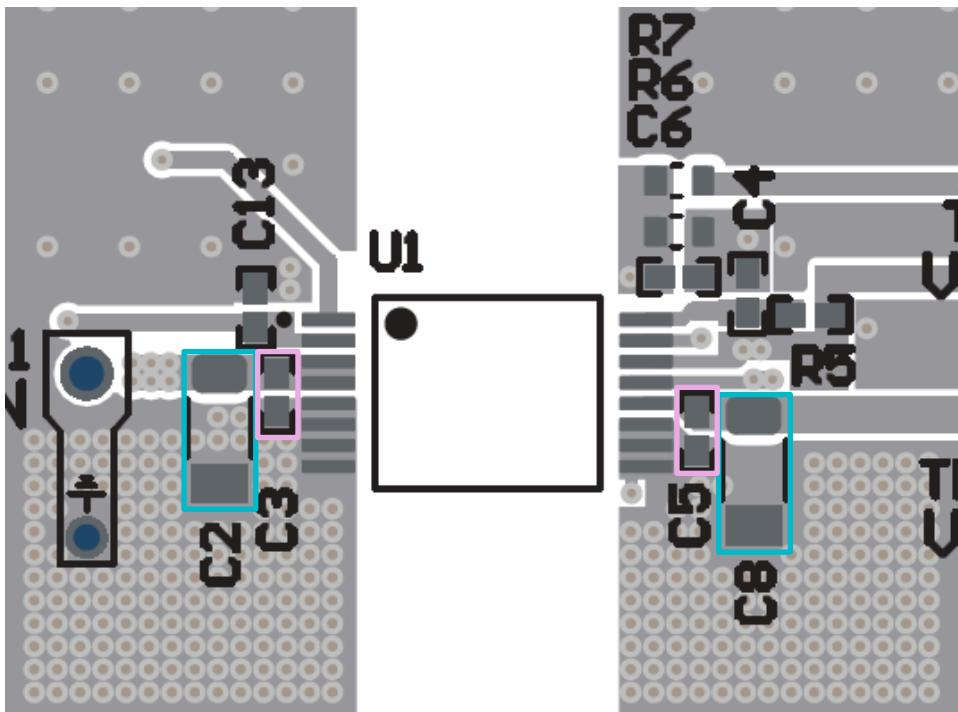

Figure 8-5. VIN (C2, C3) and VDD (C5, C8) Capacitors
- b. Place the bulk VIN capacitor(s) (C2) as close as possible and parallel to the $0.1\mu F$ high frequency bypass capacitor (C3) and on the same side of the PCB as the IC as shown in Figure 8-5.
2. Power good pin decoupling capacitor: The decoupling capacitor should be placed close to pin 2 (power good pin) and on the same side of the PCB as the UCC34141-Q1. Refer to C13 placement shown in Figure 8-5.
- b. Place the bulk VDD-COM capacitor (C8) as close as possible and parallel to the $0.1\mu F$ high frequency bypass capacitor (C5) and on the same side of the PCB as the IC as shown in Figure 8-5.